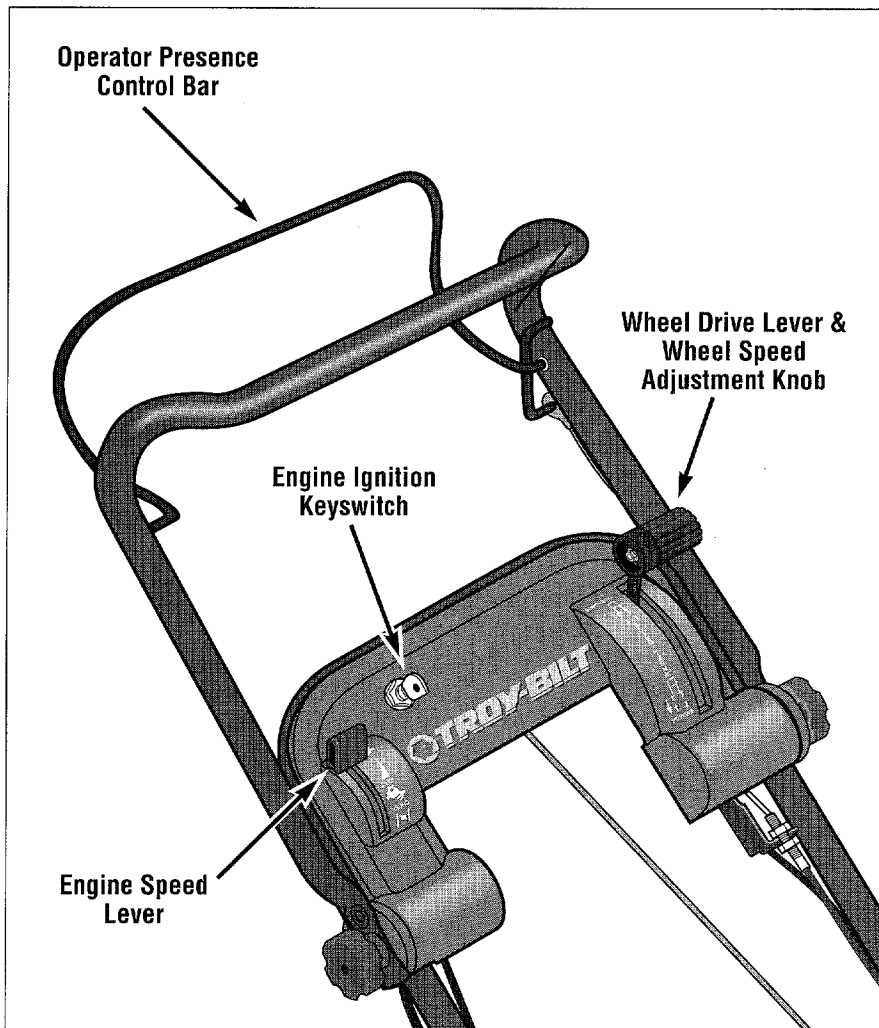

Figure 3-5: Variable Speed Model with Electric Start Engine.
This control (see Figure 3-5) regulates the speed of the engine and the blade. For best mower performance, run the engine at **FAST** speed. Using this control is fully described in the Operation Section.
This model is equipped with an Operator Presence Control Bar (see Figure 3-5). When this control is released during mower operation, the mower engine, blade, and wheels stop. Using this control is fully described in the Operation Section.
The Wheel Drive Lever (shown in Figure 3-5), controls the forward speed of the mower and the engagement and disengagement of the wheel drive. The Wheel Speed Adjustment Knob has speed settings from **SLOW (1)** to **FAST (5)**. The use of this control is fully described in the Operation Section.
The Engine Ignition Keyswitch (shown in Figure 3-5) allows starting the engine from the handlebar panel. Starting the engine is fully described in the Operation Section.